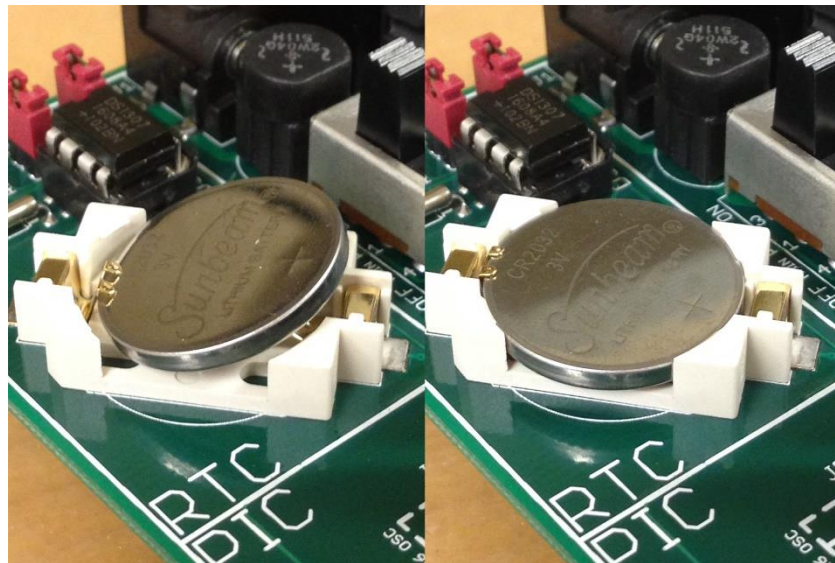

Figure 18. RTC battery replacement
- If the RTC battery requires replacement, care must be taken to ensure the battery is inserted into the holder properly as it is a fragile part. The battery must first be placed below the bent metal prong, as shown on the left-hand side of Figure 18, then the rest of the battery can then be pushed into place. To safely remove the battery, use one hand to pull the prong away from the battery and the other hand to lift it up while applying pressure down onto the holder